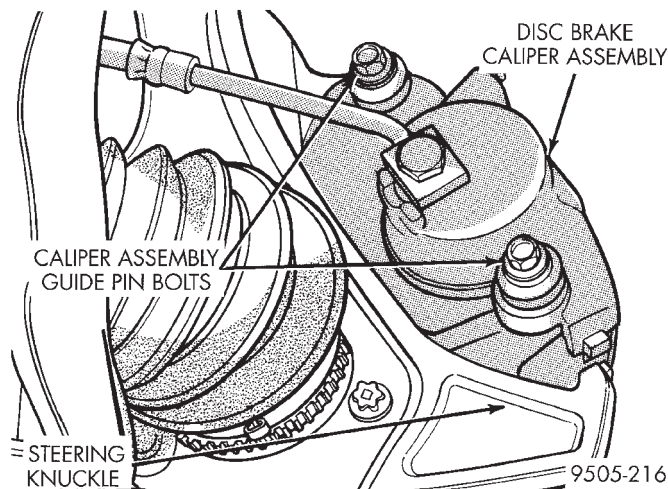

Fig. 41 Front Disc Brake Caliper Mounting
(4) Remove front tire and wheel assembly from the hub.
(5) Remove front disc brake caliper to steering knuckle guide pin attaching bolts (Fig. 41).
(10) Install the disc brake caliper guide pin bolts (Fig. 41). Tighten caliper assembly guide pin bolts to a torque of 31 N·m (23 ft. lbs.).